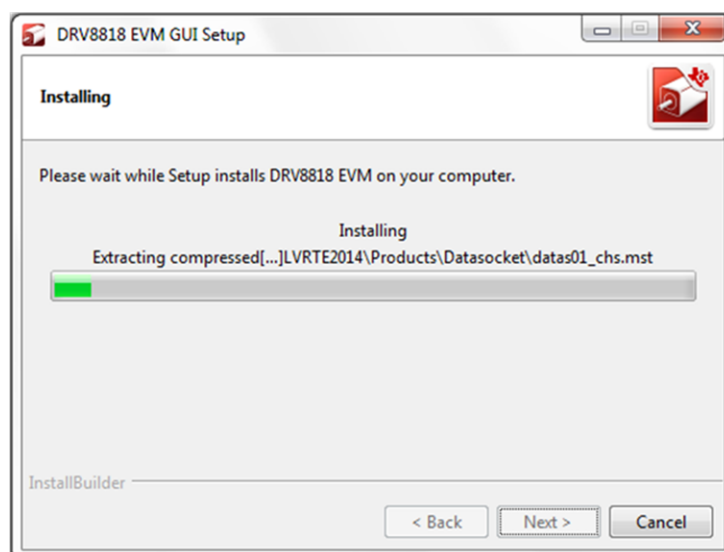

Figure 10. LabVIEW RTE Self Extraction
10. Once the Download completes, LabVIEW begins with the self-extraction as shown in Figure 10.